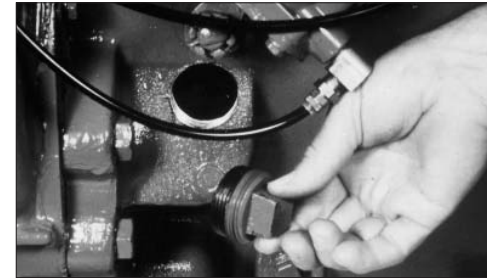

Fig. 12
1. Remove the filler plug from the transmission and add recommended transmission lubricant to the level prescribed by the transmission or truck manufacturer (Fig. 12).